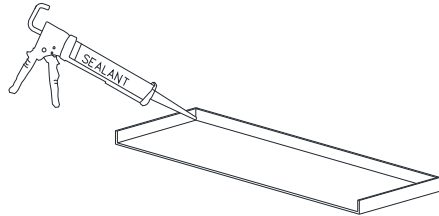

Figure 7:
- Apply sealant in all corners and seams of the sill pan (Figure 7).